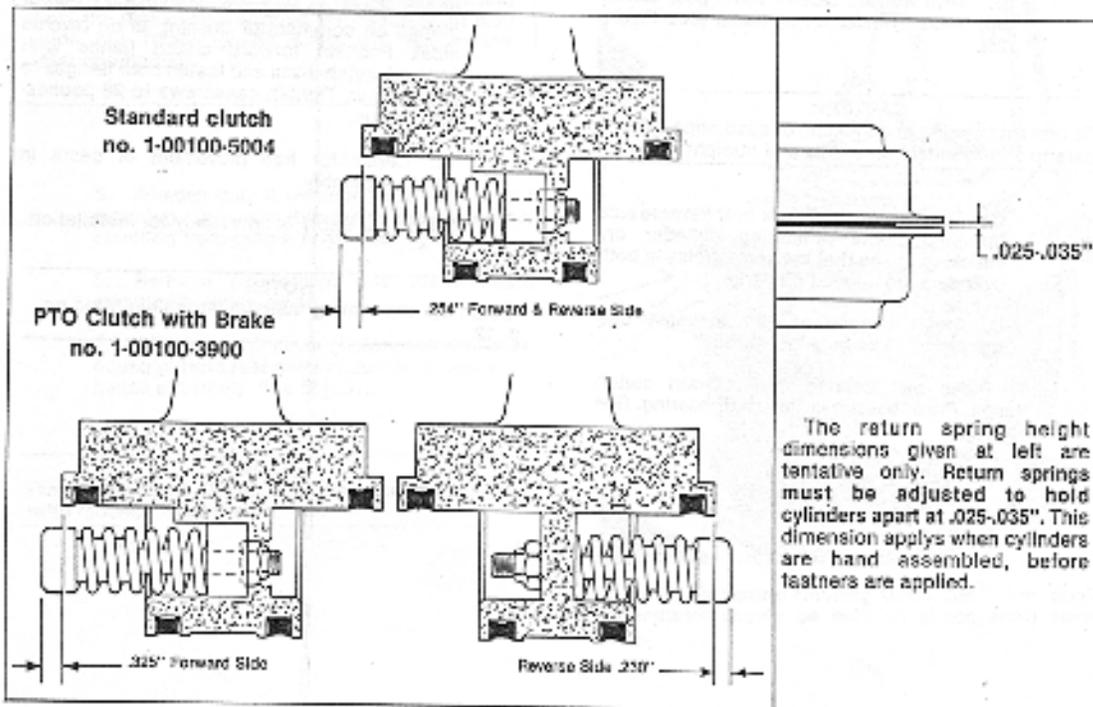

Figure 27. Clutch Return Spring Height Adjustment.
4. Replacement of return springs, return spring ring and retainers (if necessary): insert return spring retainers through ring and into return springs and secure in gear carrier using cap screws. Tighten cap screws tentatively until top of spring retainer protrudes the specified distance from the face of the bevel gear carrier hub as shown in figure 27.
5. Without installing quad rings, place cylinders on bevel gear carrier by hand. There must be a uniform gap between cylinders of .015 to .025". See fig.27. Check with a feeler gauge. If necessary re-adjust return spring height and install locknuts.